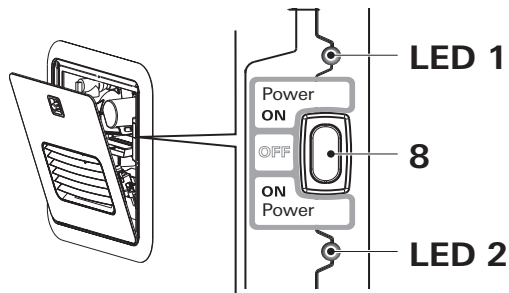

Fig. 8
2. To switch on the appliance, switch the POWER switch (Fig. 8 – 8) to one of the two “ON” positions.
- When the green power ON LED 1 (Fig. 8 – LED 1) is lit, the appliance is switched on.
- If the red error code LED 2 (Fig. 8 – LED 2) is lit / flashes, there is a fault or warning (refer to “APPENDIX A – Error Codes” on page 37).
3. Switch off the appliance at the POWER switch (Fig. 8).
- The green Power-ON LED 1 (Fig. 8) extinguishes.